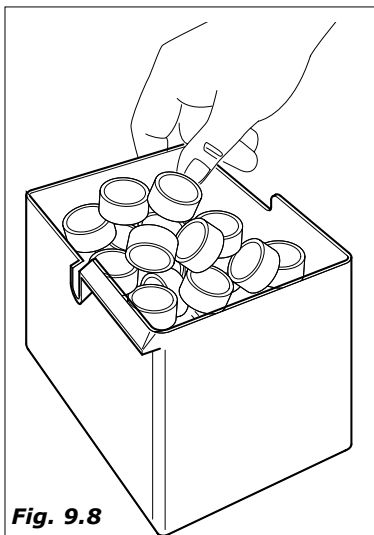

Fig. 9.8
- substitute the coffee spent grounds bag . (coffee in beans versions) (Fig. 9.8)